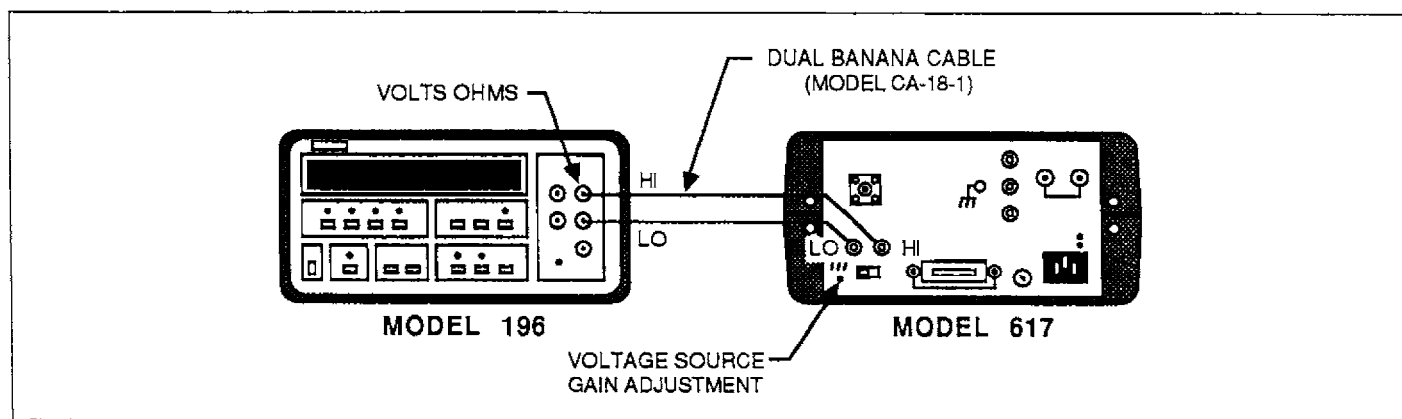

Figure 5-4. Connections for Model 617 Voltage Source Calibration
1. Connect the Model 196 DMM to the voltage source output as shown in Figure 5-4.
7. Adjust the voltage source gain adjustment (see Figure 5-4) so that the DMM reads a voltage of $100V \pm 10mV$.